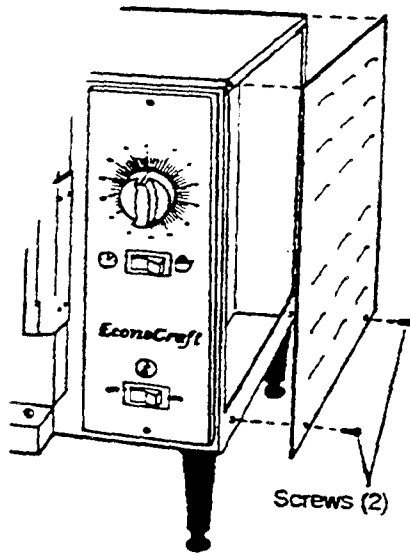

Figure 2-9. Access Panel Removal
2. Remove the access panel by removing the two screws (Figure 2-9) that hold it in place. Save the screws.
8. If no further work is required inside the access panel, such as plumbing and leak checks, secure the access panel with the two mounting screws (Figure 2-9).
2. Check all connections for proper tightness. Remove two screws to remove the access panel to inspect water connections inside the steamer; refer to Figure 2-9. Save the screws.
5. If no further work is required inside the EconoCraft at this time. replace the access panel with the two screws (Figure 2-9).